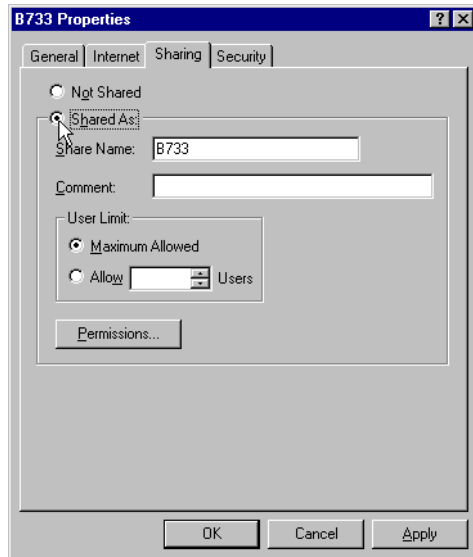

Figure 55. Setting up disk share for \\JDEdwardsOneWorld\B733 directory
4. Type **B733** as the Share Name. Your display should look like the example in Figure 55 on page 178.